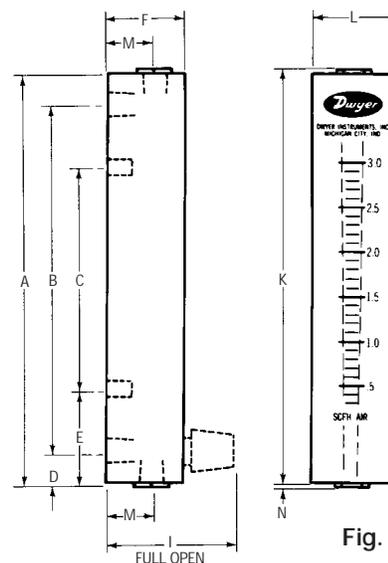

Fig. 1
The Visi-Float® Series Flowmeters are furnished in two models (see Figure 1) each available in a broad choice of flow ranges with direct reading scales for air, gas or water. Installation, operation and maintenance are very simple and only a few common sense precautions must be observed to assure long, trouble-free service.
**Surface Mounting:** Drill appropriate holes in panel using the dimensions shown in Figure 1. Hold the flowmeter in position in front of the panel and install the mounting screws through the panel from the rear. Mounting screws must not be longer than the panel thickness plus 1/4", or the screw will hit the plastic and may damage the meter. The screws will require additional force during the initial installation, since the insert boots are of a collapsed thread type and must be expanded into the plastic for the knurled surface to take hold. Insert boots will not have the proper 10-32 threads
**Surface Mounting on Piping Only:** An alternate method of surface mounting is by omitting the mounting screws and supporting the Visi-Float® Flowmeter on the connecting piping only. For this method extra long or straight pipe threads should be used so that nuts may be run onto the pipe and later tightened against the back of the panel to retain the unit in proper position. Use the appropriate hole layout information from Figure 1, but omit the small holes.